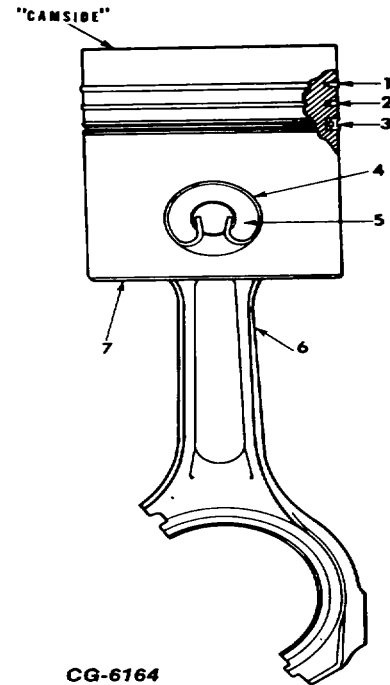

Figure 29. - Rod, Piston and Rings Reassembly
3. Insert the pin end of the connecting rod (6, Fig. 29) into the piston (7), aligning bored holes of the rod and piston (the short side of the split on the crank end of the rod is to be toward the side of the piston marked "CAMSIDE").
4. Align the bushing in the rod with the piston pin holes in the piston and push the piston pin (5) completely into position. (Pin is a loose fit at 21° C (70°F).
5. Squeeze the pronged ends of the piston pin retainer rings (4) and install a ring in the groove at each end of the piston to secure the piston pin.